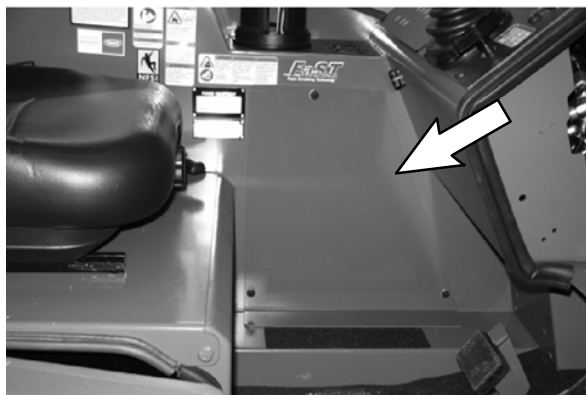

FIG. 1
2. Remove the access panel from the operators compartment. Set the access panel and all mounting hardware aside. (Fig. 1)
11. Reinstall the access panel into the operators compartment. (Fig. 1)